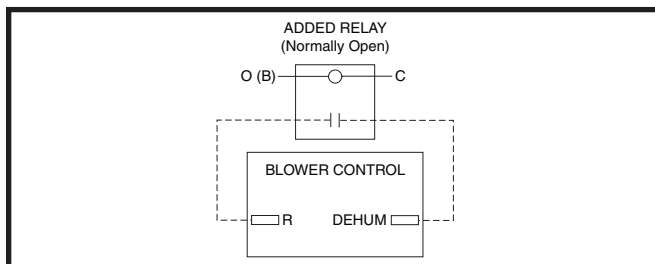

Figure 26. DEHUM Wiring Configuration without Humidistat
- If a humidistat is not available, it is an acceptable option to connect the **R** & **DEHUM** via a field supplied normally open relay. See Figure 26 (page 26). The **R** & **DEHUM** terminals should be connected across the normally open relay terminals. The **O (B)** & **C** terminals should then be connected across the relay coil. This option causes the blower to run at a reduced CFM for 10 minutes after a call for cooling.